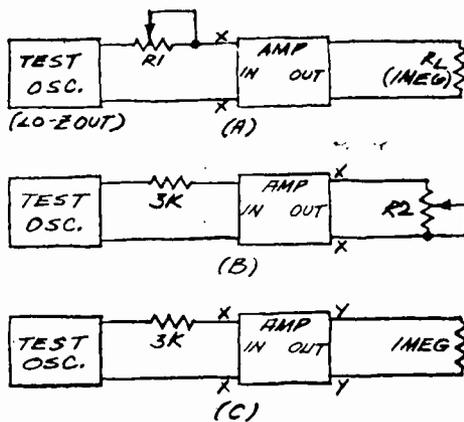

Fig. 9. Testing input/output impedances.
• 8. You may not wish to perform this last step, but if you have an audio generator, use the hookups shown in Fig. 9 to measure the important parameters of the circuit. Figure 9A is used to measure input impedance. Adjust  $R1$  until the voltage at the input is half its maximum value. (The value of  $R1$  should be greater than the estimated input impedance of the amplifier.) Then remove  $R1$  and measure its rotor-to-end resistance.